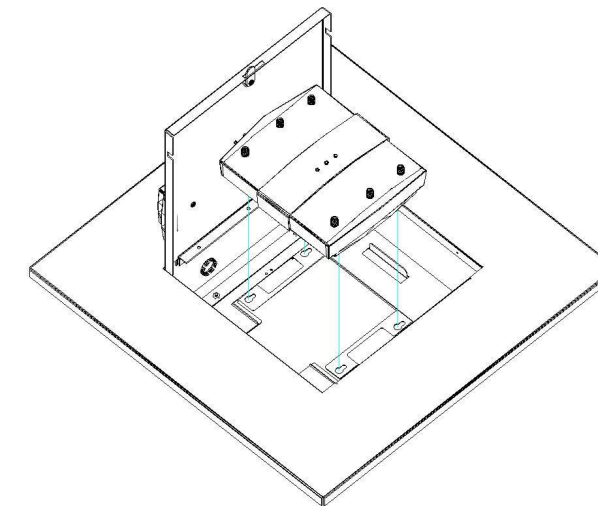

Figure 3 - AP Installation
Step 3 – Feed the Ethernet cable through the cable clamp and attach to the AP. Next, verify that the enclosure's locking plate is slid so that it is toward the outer wall of the enclosure. The AP should be aligned so that the "Cisco Logo" is closest to the door hinge. Install the Cisco 1250 AP in the enclosure by aligning the feet of the access point with the key slots on the enclosure's mounting plate. Lower the AP onto the enclosure's mounting plate until you feel the AP's feet fall into the key slots (reference *Figure 3*).